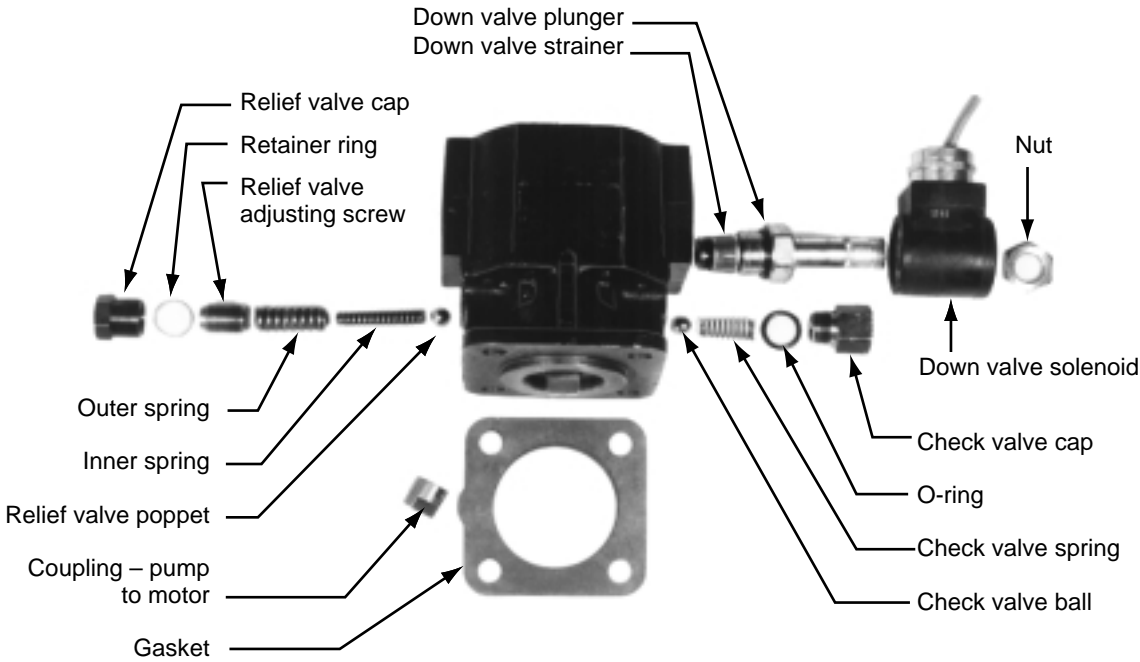

Fig. 15 – Hydraulic Pump and Down Valve
11. If the pump has been changed, the coupling may not have been installed. See the pump assembly in Fig. 15.
2. The check valve may be leaking. Dirt on the valve seat will prevent the valve from closing fully. The check valve is mounted in the base of the pump housing, as shown in Fig. 15. Remove the check valve cap and inspect the valve for dirt or metal chips which may be preventing it from closing. You may be able to restore the seal by lightly rapping the ball into the seat using a 1/4" diameter rod and a small hammer.
2. The down valve may be de-energized. When the lift is lowering, the down valve should be energized and fully open. Check the solenoid in the valve with a volt meter. The valve must also be clean and free to operate. Remove the solenoid, then the down valve. Look for contamination which could block the valve action. Clean the valve plunger with kerosene, then blow it clean with compressed air. The strainer screen over the lower part of the plunger must be clean. See Fig. 15. Before reassembly, depress the plunger manually several times to be sure it moves freely. The expansion nut which holds the solenoid should be finger tight only!